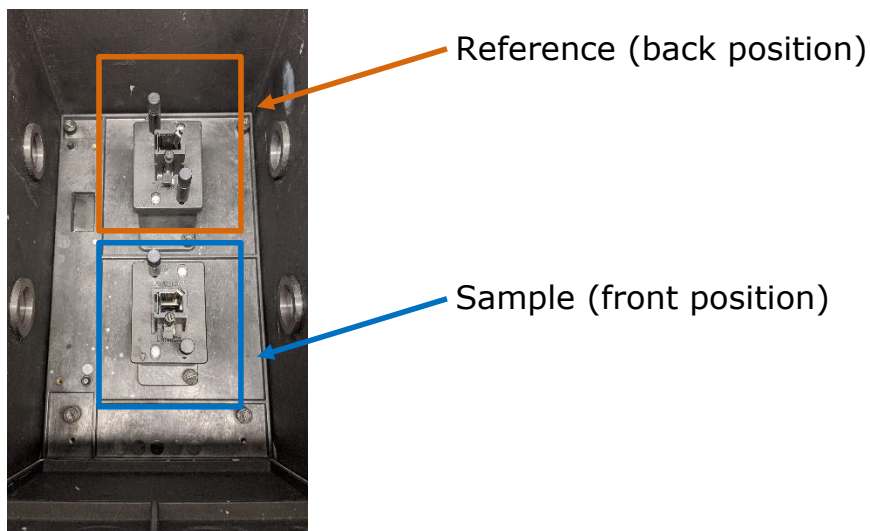

Figure 3: Interior view of the UV-Vis Cuvette Module.
- Fill two cuvettes with your base solvent (reference), cap them and load them into the cuvette holders (shown in Figure 3), close the lid to the sample compartment.